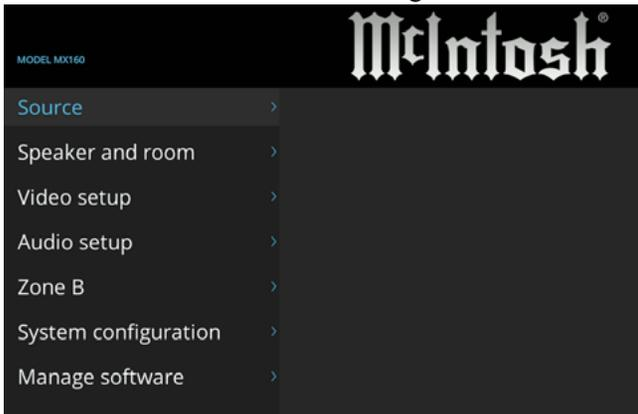

Figure 7
1. Press the SETUP Push-button on the Remote Control and the Main Setup Menu will appear on the Monitor/TV screen. Refer to figure 7.